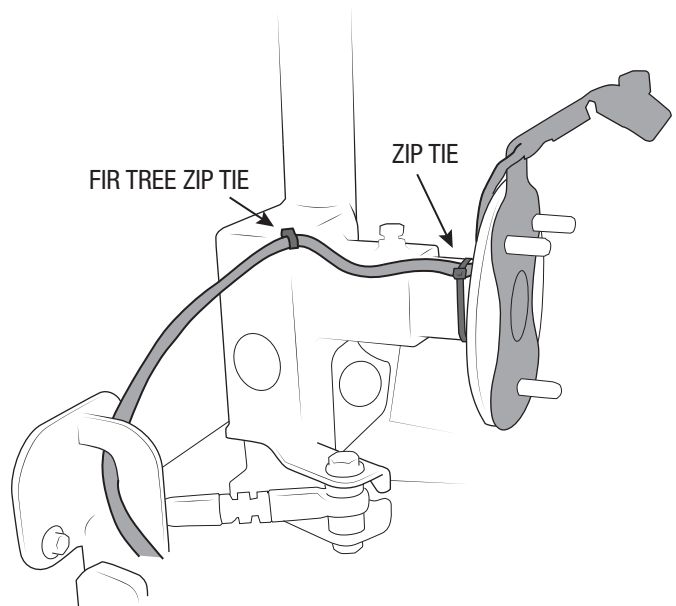

Figure 16
2. Route the Camera/CHMSL wires to be free from obstructions, pinch points, or sharp edges (Recommended routing with AEV tire carrier shown in fig. 16).